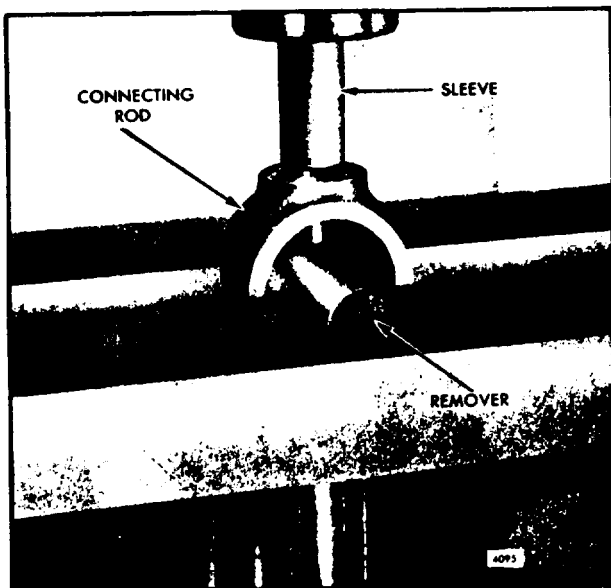

Fig. 5. - Removing Spray Nozzle from Connecting Rod
2. Place the connecting rod, spray nozzle remover J 8995 and a short sleeve in an arbor press as shown in Fig. 5.